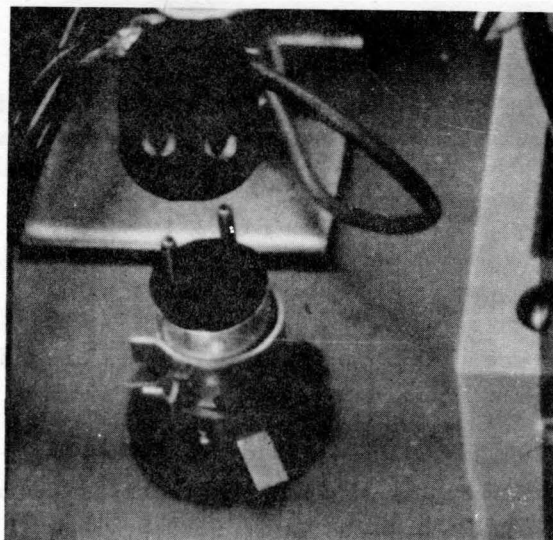

Figure 3-16 Panel Lamp Assembly
1. Remove the plug from the faulty lamp (See Figure 3-16).